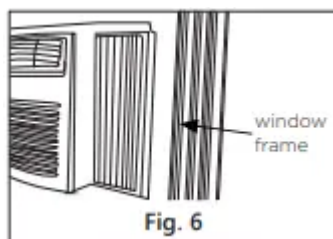

Fig. 6
B. Extend the side panels out against the window frame (Fig. 6).